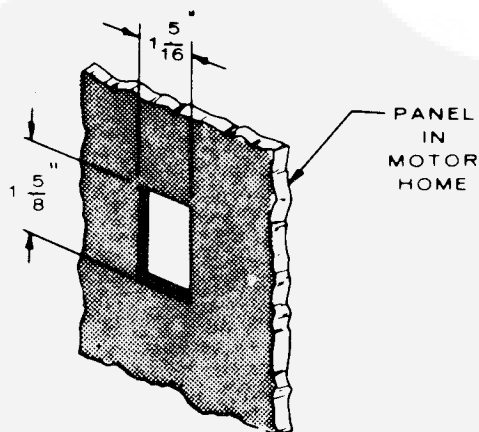

FIGURE 17. MOTOR HOME CUTOUT FOR STANDARD CONTROL PANEL
1. Select control location. Using Figure 17 or 18 as a guide, drill screw holes and cut hole to accommodate remote switch in dash panel.